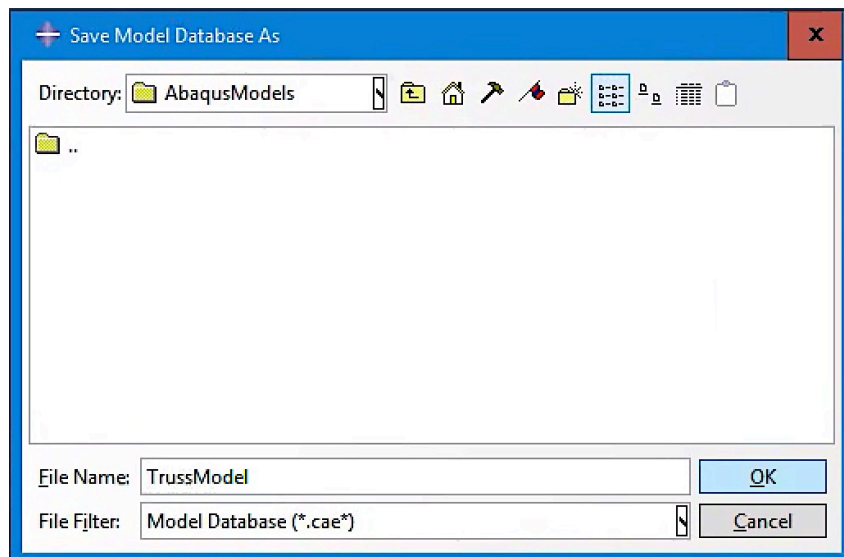

Figure 4 Saving the model database file
- On the main menu, click on the **File** and choose the **New Model Database**, and then **With Standard/Explicit Model**. It is a good practice to save your work regularly, and save the database at the beginning. Click on the **Save** button (or **File/Save**) and choose the working directory. Name the database file and click on **OK** (Figure 4).